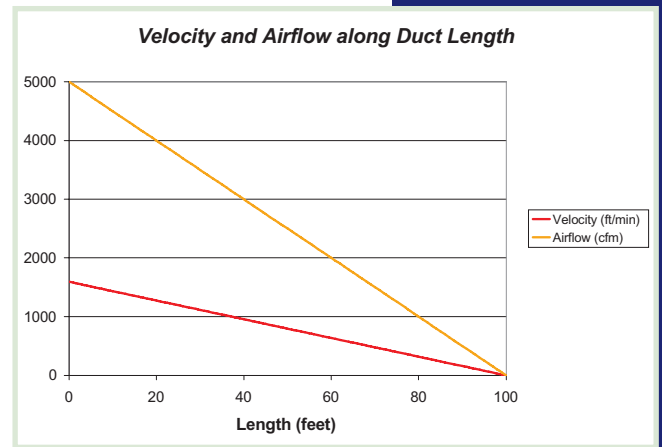
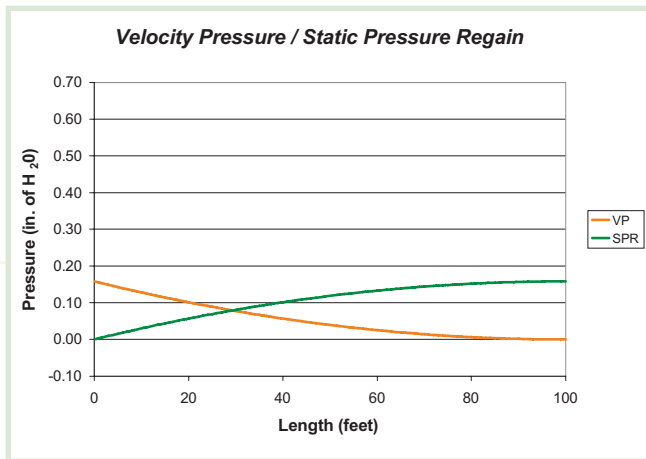

Figure 2: Airflow Velocity
Figure 3: Velocity Pressure and Static Pressure Regain
As air is being dispersed to the space, Static Pressure Regain (SPR) builds along the entire length of the fabric duct. As cross sectional velocity reduces, Velocity Pressure (VP) decreases as charted in Figure 2. The VP is kinetic energy and slowly changes forms to a useful potential energy or SPR as the air travels down the constant diameter duct. Figure 3 displays the inverse relationship.